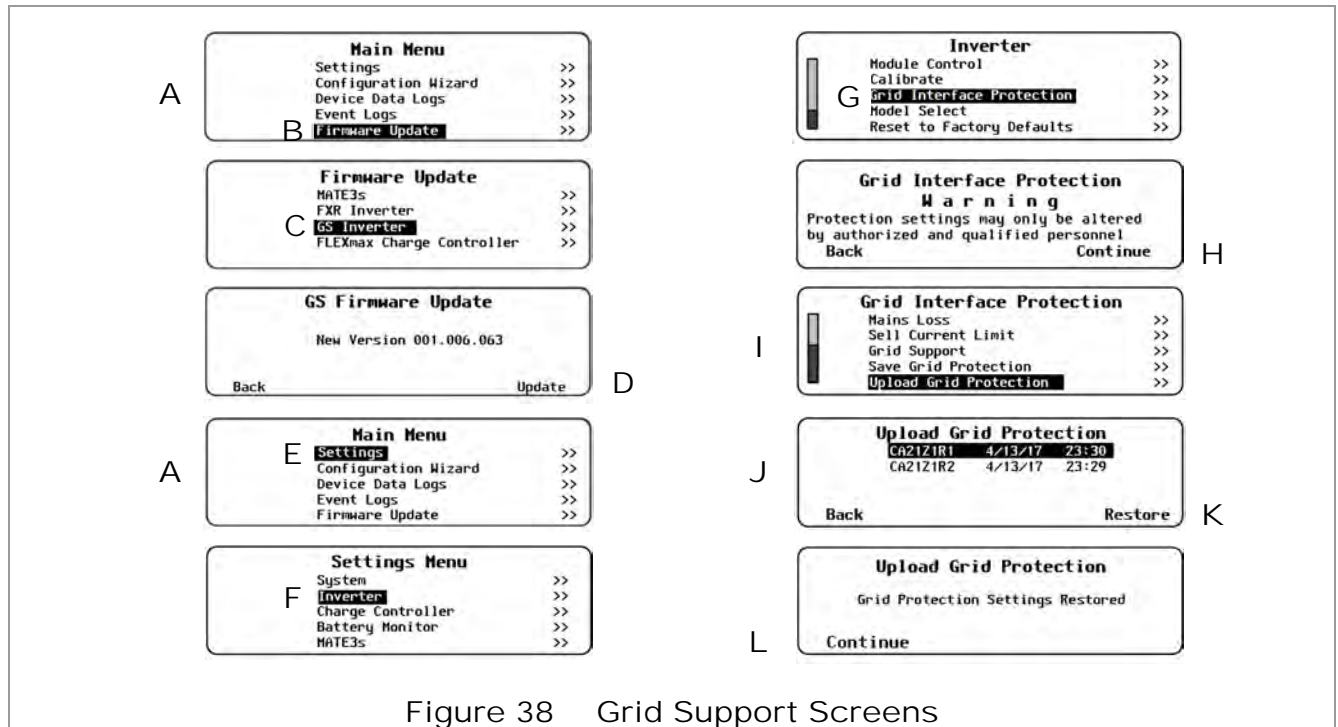

Figure 38 Grid Support Screens
2. From the MATE3s **Main Menu** (A in Figure 38), choose **Firmware Update** (B) and then **GS Inverter** (C). The display will show that new firmware is present. (The revision should be 001.006.063 or higher.) Press **Update** (D) to upload this firmware into the Radian inverter. This can take up to ten minutes per inverter. In certain systems it may take up to 20 minutes.